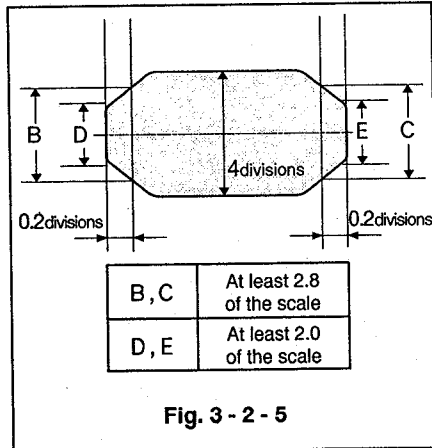

Fig. 3-2-5
- ② In the manual tracking mode, change tracking and make sure the amplitude is changeable while the FM signal remains flat.
- ③ Adjust tracking so that the amplitude of the FM waveform is maximum. Set the oscilloscope so the amplitude of the FM waveform is 5 divisions.
- ④ Adjust tracking so that the peak value of the FM waveform is 4 divisions. Check if the FM waveform B, C, D, and E are within the specified values shown in Fig. 3-2-5.
- ⑤ If the waveform is not within the specified value, repeat the procedure for checking and adjustment of FM envelope in Item 3-2 from the beginning.